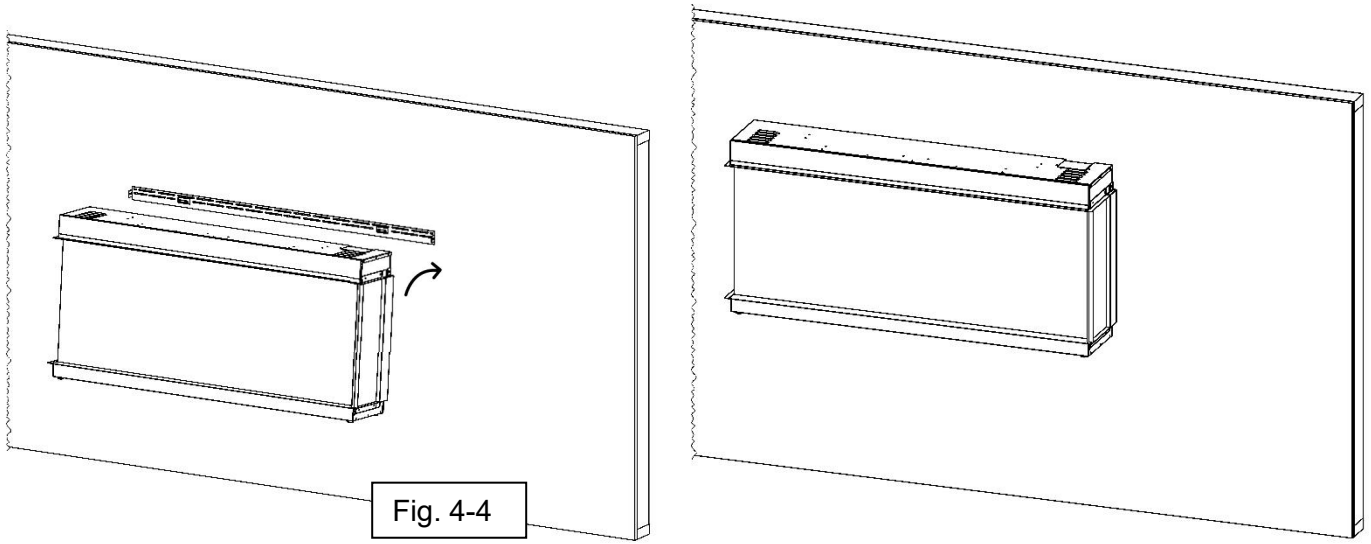

Fig. 4-4
- With the wall mounting bracket installed, have two people lift the appliance up and insert the two hooks of the wall bracket into the two receiver slots on the back of the appliance (Fig. 4-4).